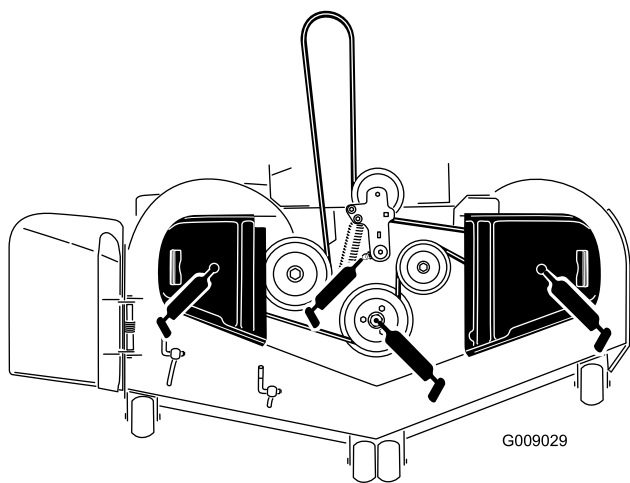

Figure 43
3. Grease the mower deck idler pulley pivot until grease comes out the bottom (Figure 43).
4. For 6000 Series machines with 72-inch decks only, grease the 3 spindle bearings until grease comes out the lower seals (Figure 43).
6. Grease the drive belt idler arm (Figure 43).